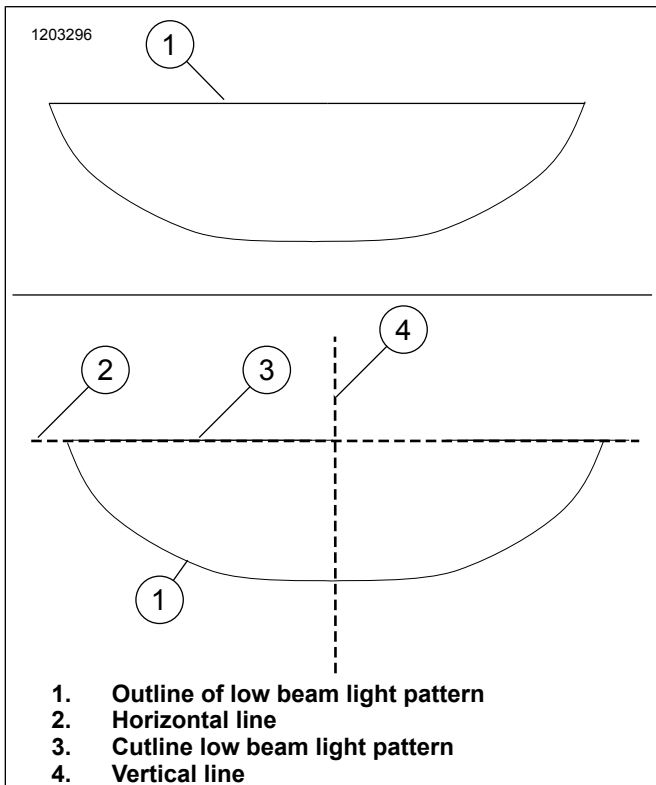

Figure 11. Alignment of Headlamp Low Beam
1. See Figure 11. Align the horizontal cutline of **low beam** light pattern (3) with horizontal line (2) drawn on the wall.